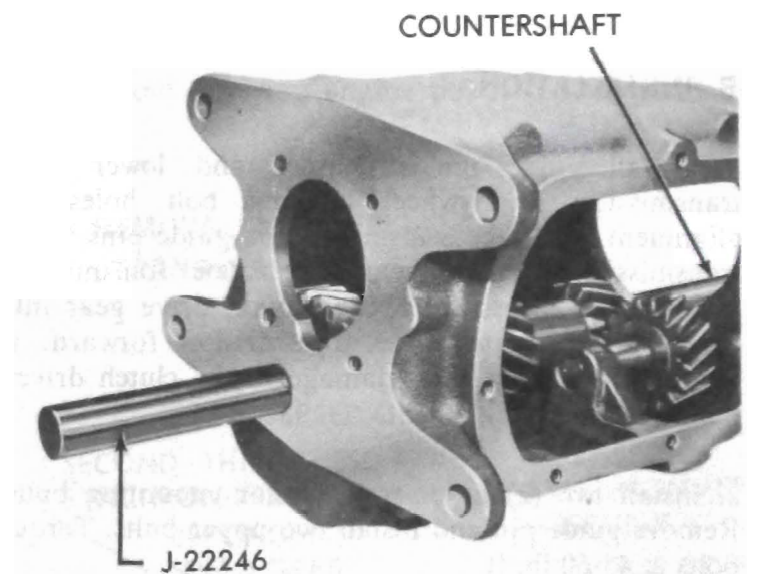

Figure 72-6 Removing Countershaft
remove counter gear shaft and its woodruff key through rear of case. See Figure 72-6. Remove two (2) tanged bronze thrust washers.